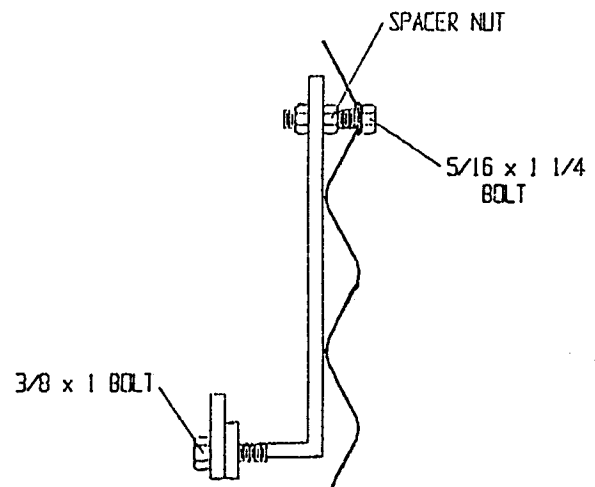

FIG. 1 - TRACK PROFILE - BOLTS
1. Insert 1-1/4" bolts in every other hole around top of bin (approximately 18" spacing), for bins smaller than 30'. For bins 30' and larger, place bolts in every hole (approximately 9" spacing) except at seam. Tighten 5/16" spacer nuts onto bolts. Figs. 1 & 2.
second nut on each top bolt. Do not tighten at this time. Figs. 1 and 2.
- Tighten nuts on top bolts of brackets. Fig.1
- Mount first segment of track in bin, Fig. 1. Punch or drill holes in top sheet to match brackets. Bolt top bolts in place on each bracket of the first track section. Figs. 1 and 2.